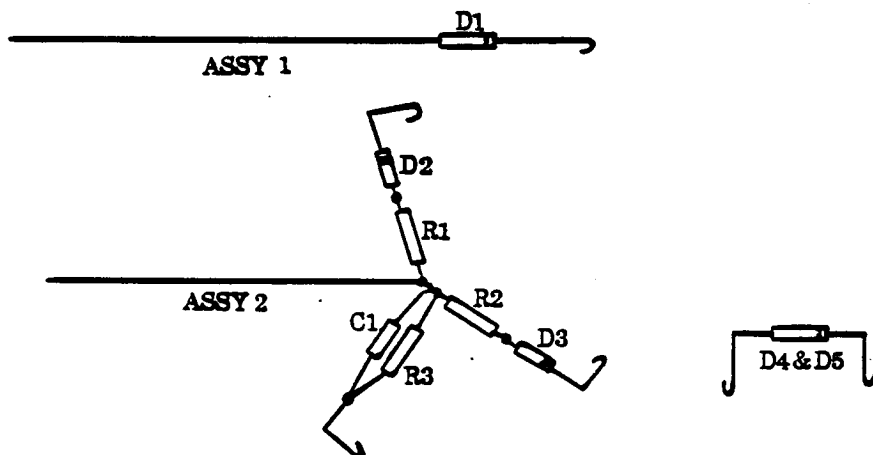

Figure 2. Pre-form Assembly
5. If the kit has not already been pre-formed (see Figure 2), use needle-nosed pliers and wire cutters to pre-form the kit. Use Figure 2 as a reference.